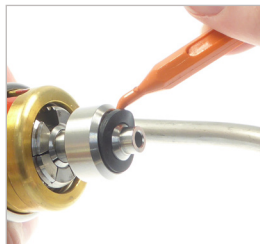

Figure 10
- ▶ Insert a suitable repair tool behind the front seal (Pos. 7) with the WEH® O-ring picker, from the WEH® tool kit part No. 193255, and remove it from the recess (*Figure 10*).